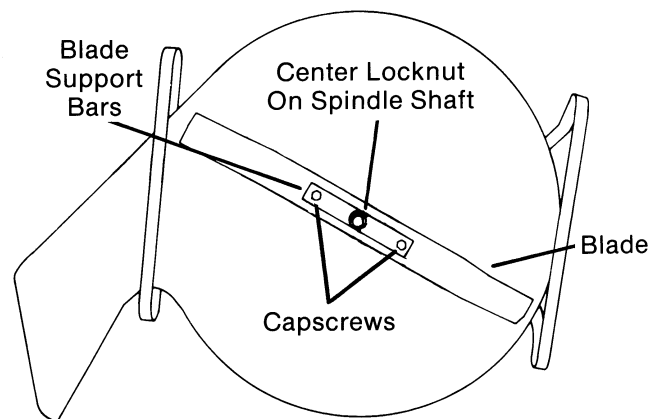

FIG. 12
- E. Remove center locknut from spindle shaft. (Fig. 12)
- F. Loosen, but do not remove, two capscrews holding blade support bars. (Fig. 12) Remove blade and blade support bars from spindle shaft.
- E. Remove bottom center locknut securing blade to spindle shaft. (Fig. 12)
- F. Loosen, do not remove, two capscrews holding blade support bars to blade. (Fig. 12)